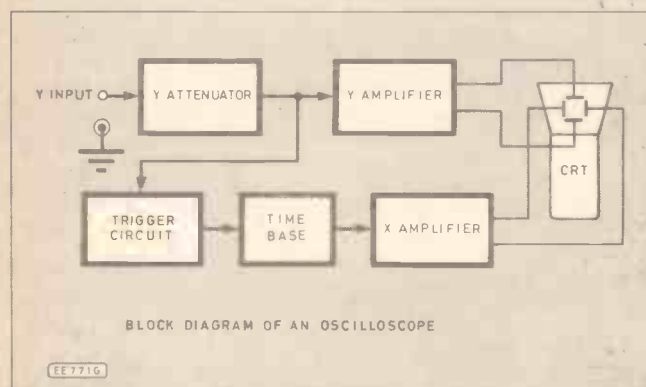

Fig. 1. Main circuit elements of an oscilloscope.
Initially it should be understood that an oscilloscope is an analogue measuring instrument which displays rapidly changing, or high frequency, voltages against time in the form of a graph on a cathode ray tube (c.r.t.). Two main circuit elements achieve this, the vertical deflection system (Y), and the time base or horizontal deflection system (X). The main circuit elements of a particular oscilloscope are shown in the block diagram Fig. 1. The constraints of both these systems dictate the main specification parameters of the instrument.